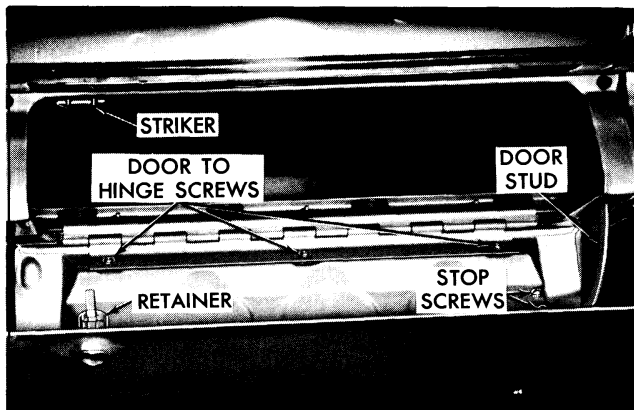

Fig. 2-10 Instrument Panel Compartment Door
2. Remove attaching screws at door hinge and door stop from door inner panel and remove door (Fig. 2-10).
3. The compartment door lock striker may be adjusted by loosening attaching screws and moving striker to desired position (Fig. 2-10).
1. Remove hinge stop attaching screws (Fig. 2-10), disengage stop from instrument panel door and remove stop.
1. Open compartment door, remove screw from retainer and remove knob assembly (Fig. 2-10).